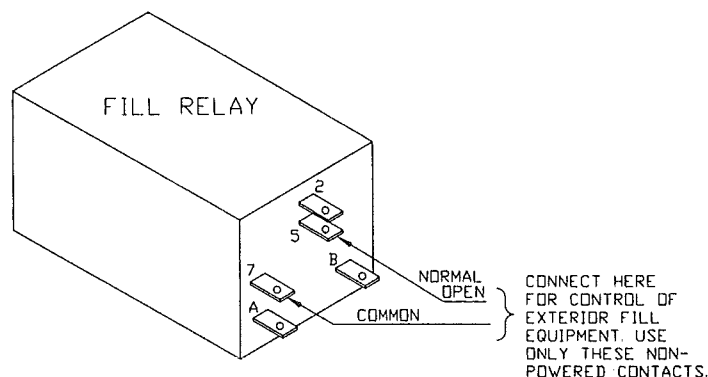

Figure 7A – 320 Relay Non-Powered Contacts
2. On Model CF320, the power for the fill auger motor magnetic starter coil is controlled by the non-powered contacts of the relay provided in the magnetic starter cabinet. See Figure 7A.